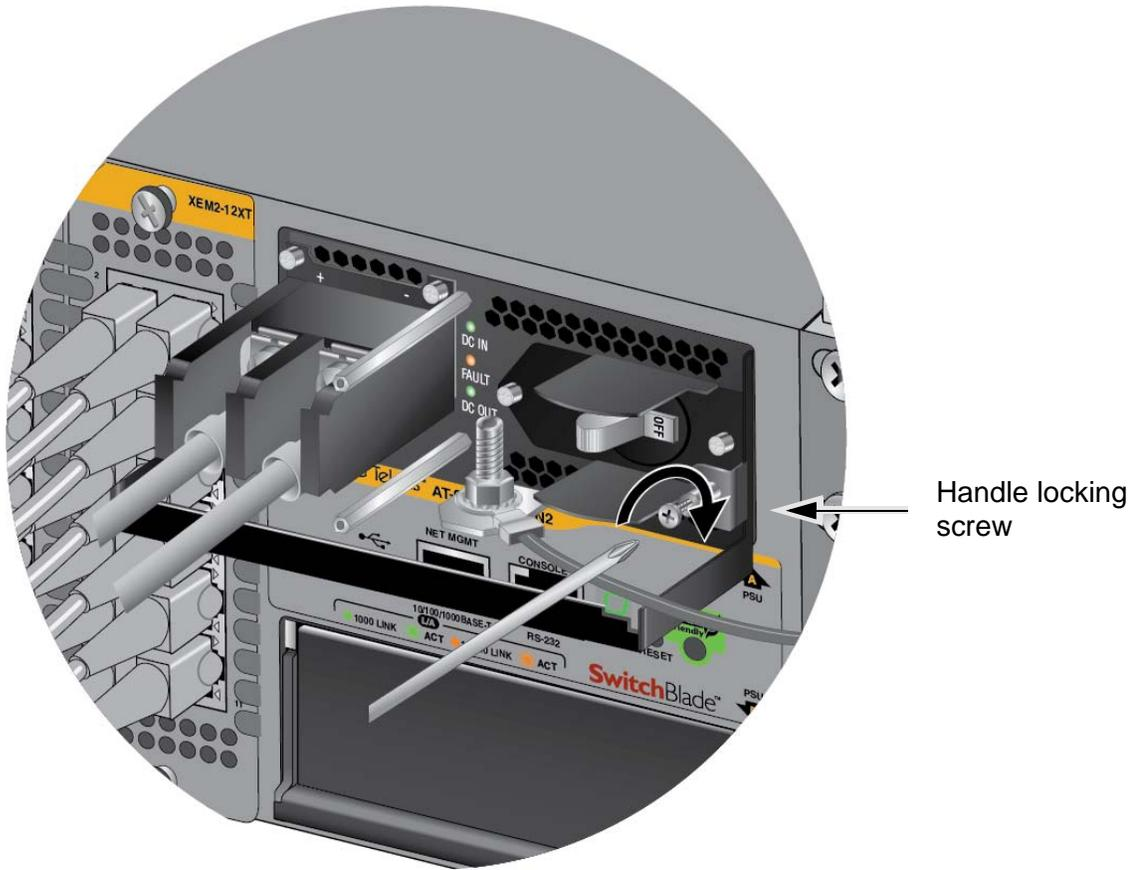

Figure 92. Tightening the Handle Locking Screw
8. With a #2 Phillips-head screwdriver, tighten the handle locking screw to secure the power supply to the chassis. See Figure 92 on page 144.
7. With a #2 Phillips-head screwdriver, tighten the handle locking screw to secure the power supply to the chassis. See Figure 92 on page 144.